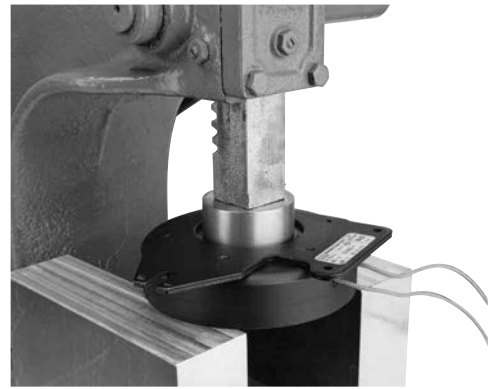

Figure 24
8. Remove the bearing (Item 11) from the field assembly (Item 12) by pressing on the inner race while supporting the field assembly on its face. (See Figure 24)